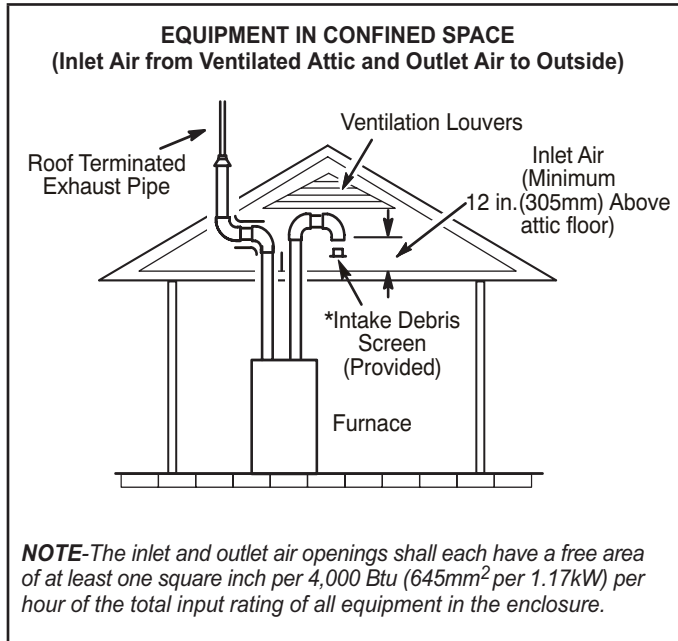
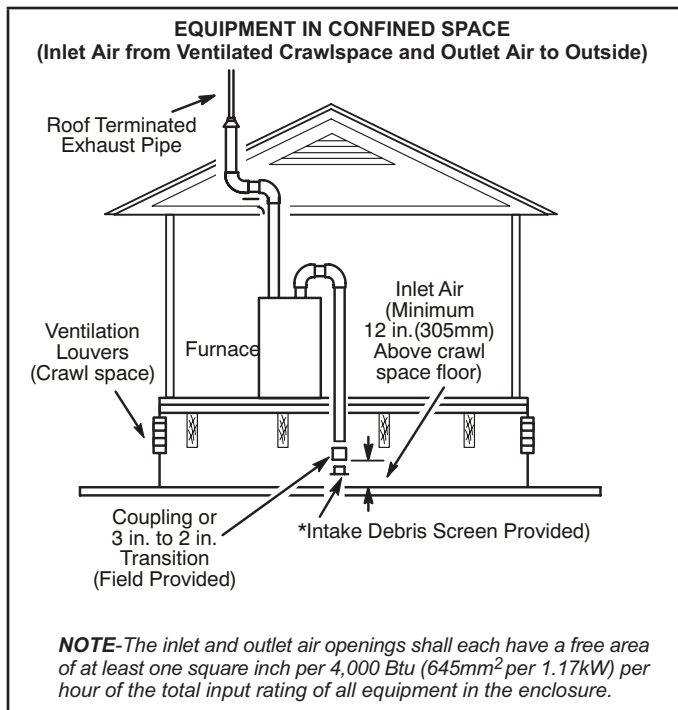

FIGURE 26
FIGURE 27
- 2 - If intake air is drawn from a ventilated attic (FIGURE 26) or ventilated crawlspace (FIGURE 27) the exhaust vent length must not exceed those listed in TABLE 18. If 3" diameter pipe is used, reduce to 2" diameter pipe at the termination point to accommodate the debris screen.